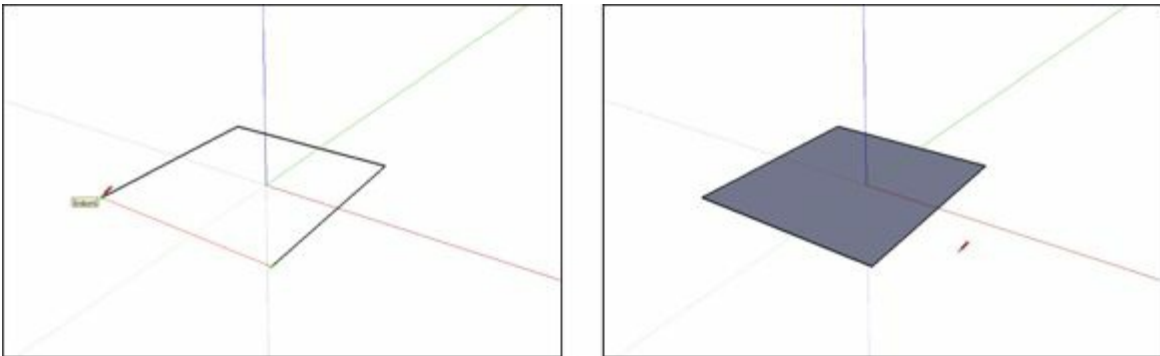

FIGURE 3-6: SketchUp automatically makes a face whenever you create a closed loop of coplanar edges.
- » **Every time SketchUp can make a face, it will.** There's no such thing as a "Face tool" in this software; SketchUp just automatically makes a face every time you finish drawing a closed shape out of three or more coplanar edges. Figure 3-6 shows this in action: As soon as a line connects the last edge to the first one, SketchUp creates a face.